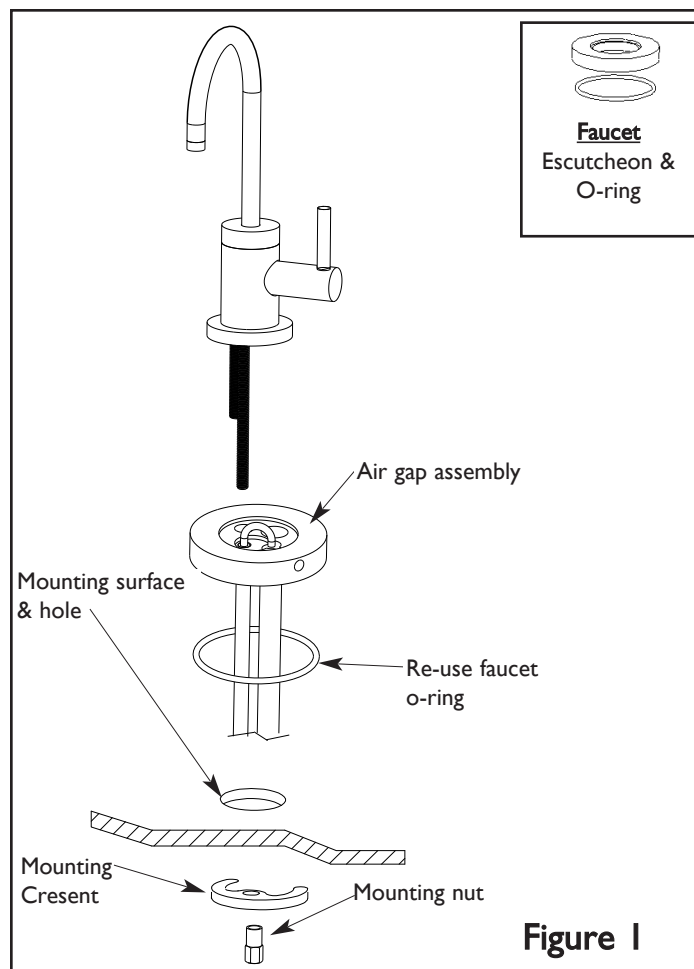

Figure 1
1. INSTALLING FAUCET TO AIR GAP (See Fig 1)